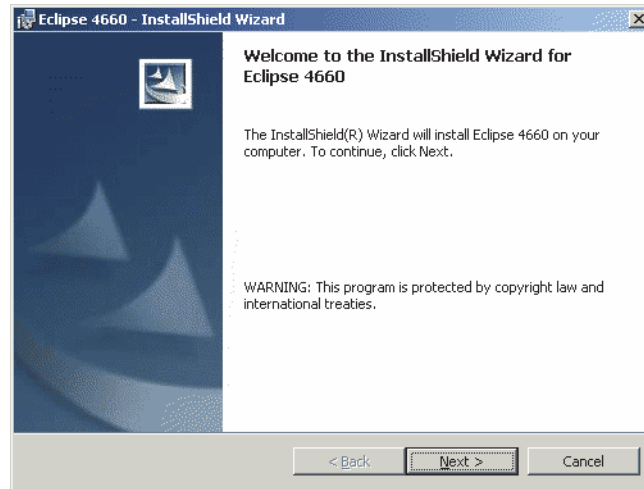

Figure 3.15. Eclipse 4660 InstallShield Wizard screen
- At the InstallShield welcome screen (Figure 3.15), click **Next** to install the Eclipse software.